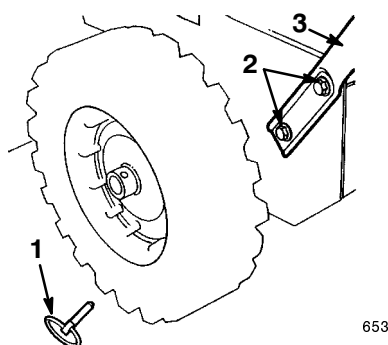

Figure 2
2. Remove the axle pins from both wheels (Fig. 2) and slide the wheels outward on the axle approximately one inch (2.5 cm).
4. Position the left handle against the left side of the snowthrower, align the handle mount holes with the holes in the side plate, and secure the handle with two cap screws and curved washers until they are finger tight (Fig. 2).